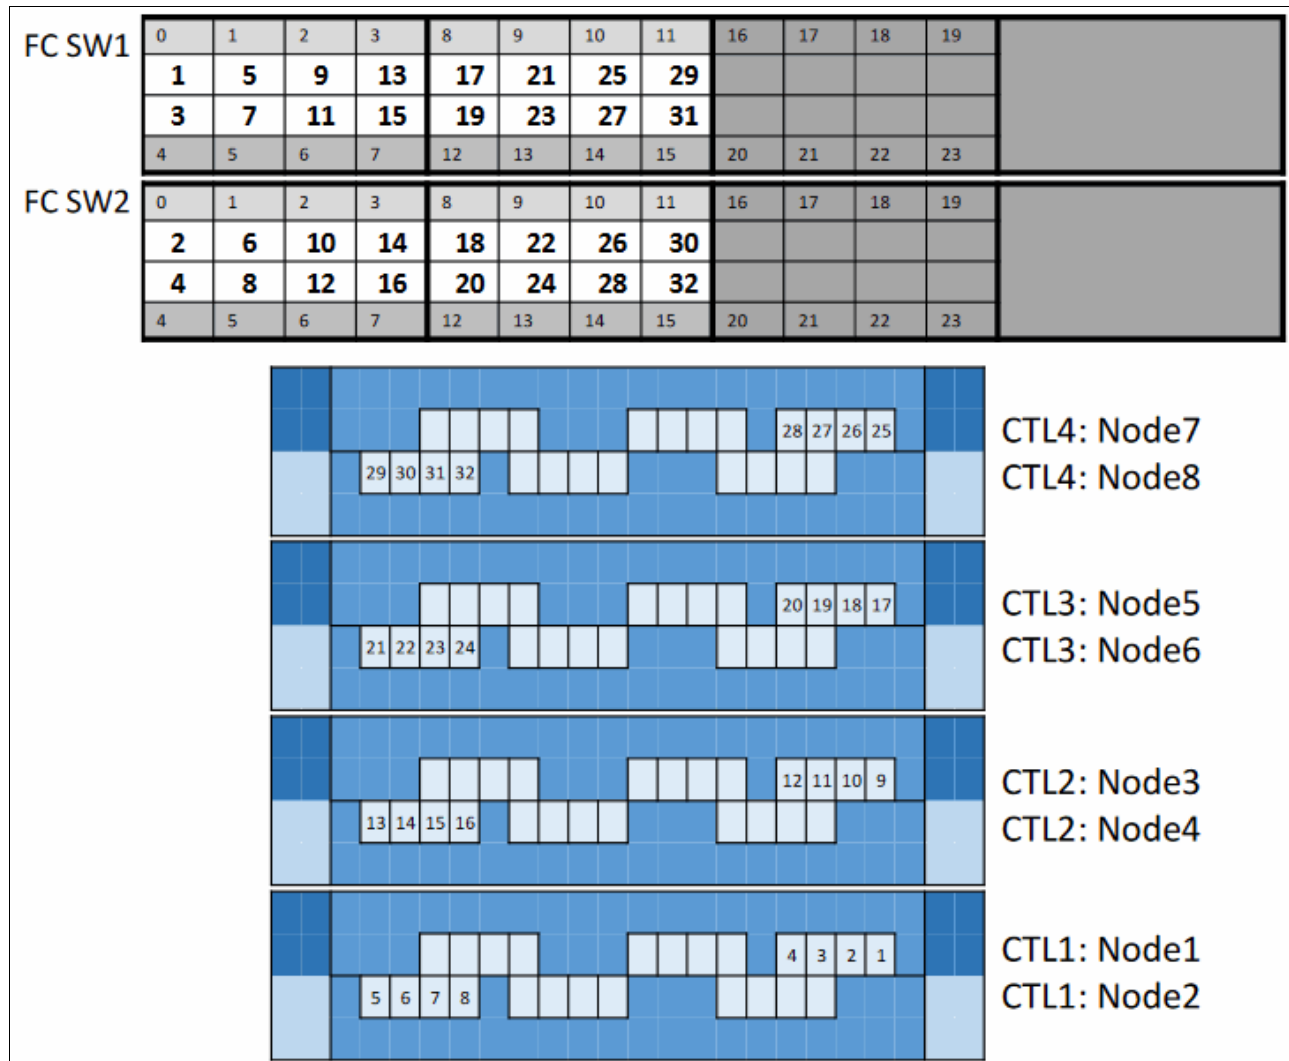

Figure 1-18 IBM FlashSystem 9200R Rack Solution with IBM SAN24B-6 switches
Figure 1-18 shows the IBM FlashSystem 9200 Rack Solution inter-system FC ports and the connections to the IBM SAN24B-6 switch ports.
- Shows the SAN24B-6 cabling diagram, where the top part of Figure 1-18 represents the SAN24B-6 port configuration layout.